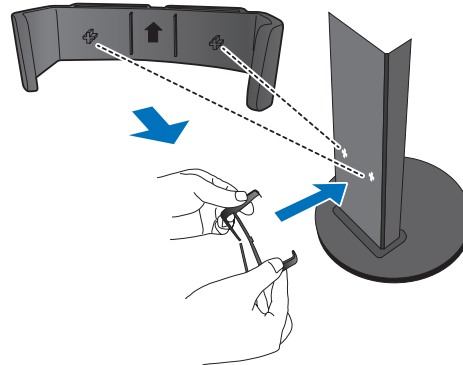

Figure 3
4. Place the cable holder onto the stand (**Figure 3**).